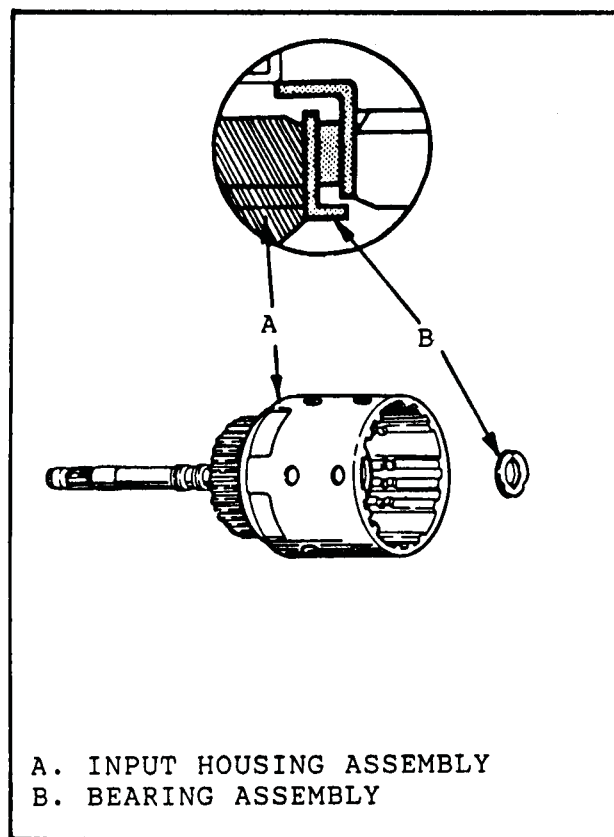

Figure 95
8. Refer to Figure 95 for direction of the thrust bearing, and use a small amount of TransJel to retain in position.